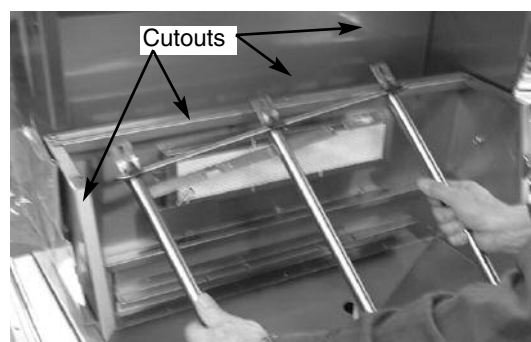

Fig 9
9. Grasp and push the burner(s) towards the rear of the grill to detach the burner from the valves. (See Fig. 9)